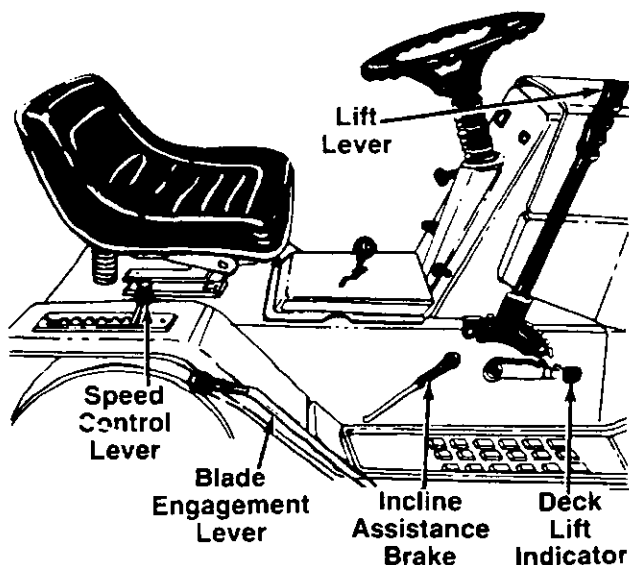

FIGURE 16.
The speed control lever is located on the right fender. It allows you to regulate the ground speed of the lawn tractor. See figure 16. To select the ground speed, depress clutch pedal. Push speed control lever outward and move backward to slow lawn tractor, move forward to increase speed. When desired speed has been obtained, release lever in that position. Whenever clutch is engaged, unit will automatically go to the pre-set speed.
When stopping on a hill, hold the incline assistance brake lever back while you release the clutch-brake pedal until the lawn tractor begins to move, then release the lever. This lever permits smoother starts and clutch engagement by holding the tractor during the brake release/clutch engagement operation. See figure 16.
The lift lever is located on the right side of the unit. It is used to raise and lower the cutting deck and other attachments. Move the lever to the right, then forward or backward to the desired position and release. See figure 16.
The deck lift indicator marks the position being used for the lift lever. Select the lift lever position desired, press the indicator lever outward, move it to the position immediately below the lift lever and release the indicator lever. See figure 16.
3. Place the blade engagement lever in the DISENGAGED position. See figure 16.